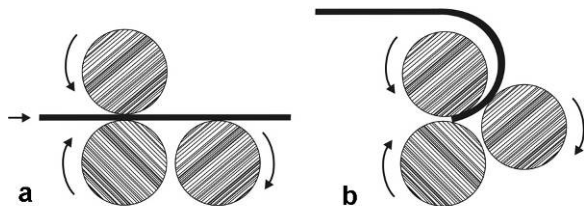

Figure 15
- Operate handle; when the material reaches the point where the radius is to begin (a, Figure 15), stop the machine and raise the idle roll an equal amount on each end to achieve desired bend.
- Restart rolls and continue until bend is completed (b, Figure 15). Support workpiece as it exits machine.